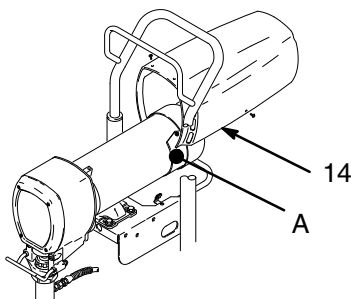

Fig. 8 03799
1. **Check the packing nut/wet-cup daily.** Relieve the pressure. Keep the packing nut/wet-cup 1/3 full with TSL at all times to help prevent fluid build-up on the piston rod and premature wear of packings. Tighten the packing nut just enough to stop leakage. Overtightening may cause binding and excessive packing wear. Use a screwdriver and light hammer to adjust the nut. See Fig. 8.
1. Remove the motor cover (14) and both inspection covers (A). See Fig. 8.